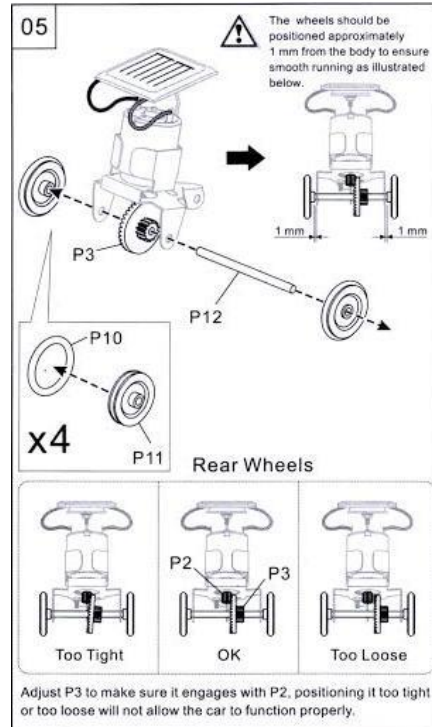

Fig. 8
5. Attach the two back wheels to the racer. First add the rubber circles to the wheels and then put the gear onto the long round shaft. Put the round shaft through the two holes with the gear in the middle and make sure the gear is touching the pinion gear and that it is not too loose or too tight. Then attach the wheels on either end with a 1mm clearance. See Fig. 8. What would happen if the wheels were attached too tightly?